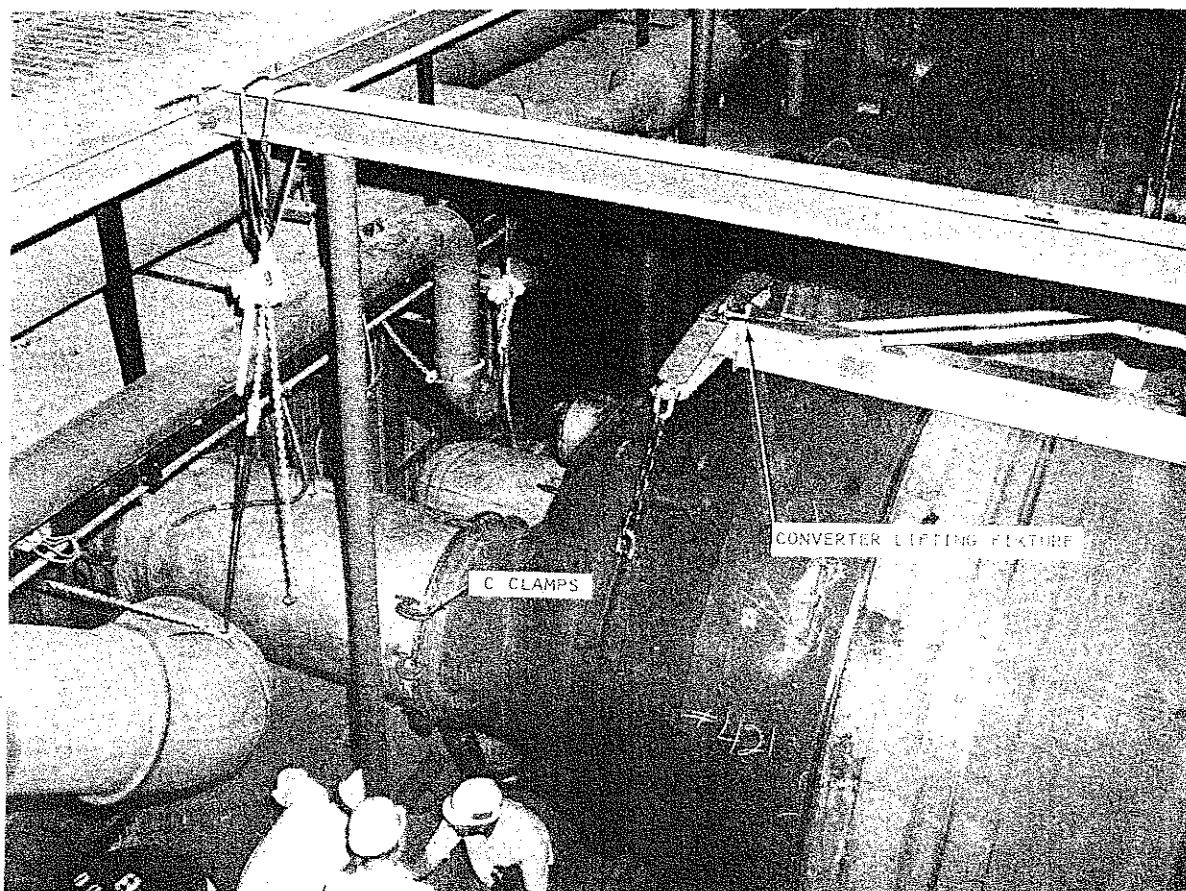

FIG. 6. CONVERTER INSTALLATION
- d. Remove converter lifting fixture (Fig. 6).
- e. Place "C" clamps in the order listed on each flanged joint to hold it in alignment to the stage PG piping during welding operation (Fig. 6).